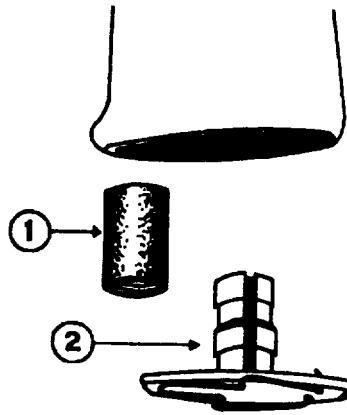

Figure 3-8. Thread Cap And Thread Cap Holder
c. When the flash suppressor is not being used, install the thread cap (1), Figure 3-8 on page 3-29, to protect the threads on the muzzle used to secure the sound suppressor 10 the weapon. Store the thread cap on the thread cap holder (2) within the hollow space of the pistol grip.